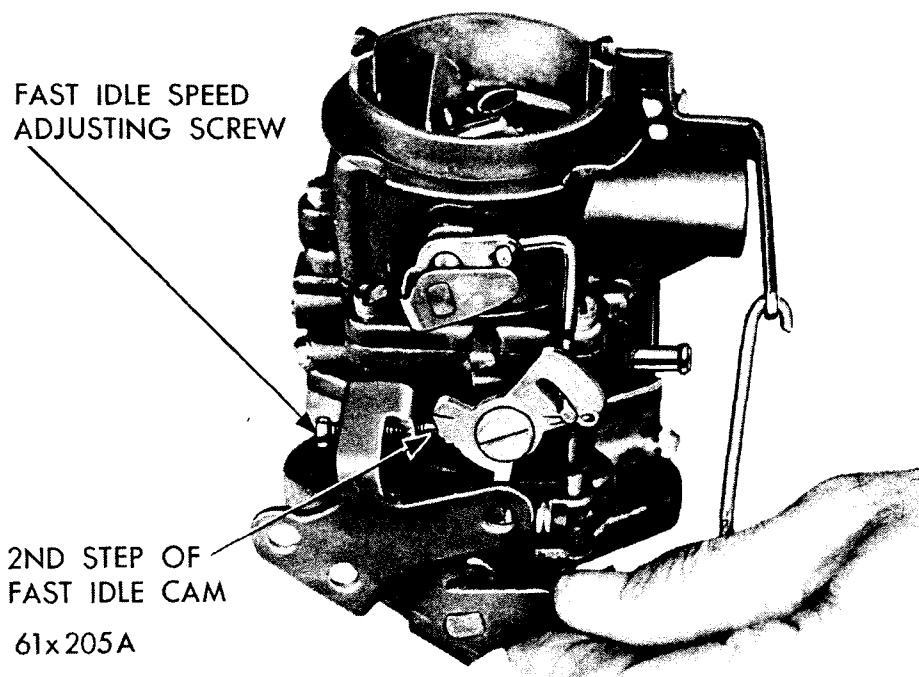

Fig. 60—Fast Idle Adjusting Screw on 2nd Step of Fast Idle Cam
To set the fast idle speed, refer to Figure 60. Connect a tachometer, then proceed as follows:
(1) With the engine running and warmed-up, open the throttle slightly and rotate the fast idle cam until the fast idle adjustment screw will contact the second (2nd) step of the fast idle cam, as shown in Figure 60.
(2) Release the throttle. The linkage pull-back spring will cause the fast idle adjusting screw to hold the cam in this position.
(3) Turn the fast idle speed adjusting screw clockwise (faster) or counterclockwise (slower) to obtain the fast idle speed.